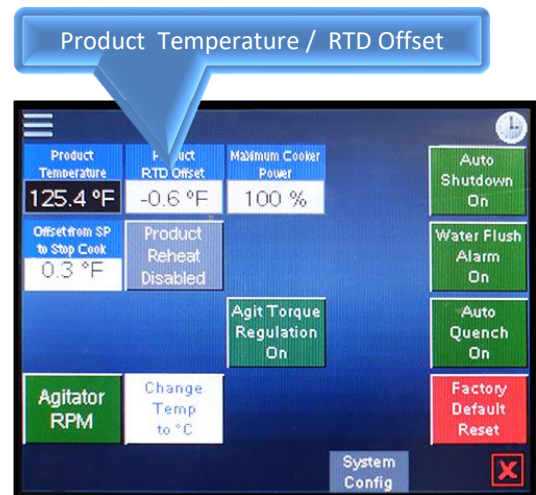

Figure 78
9. Press the **Product Temp / RTD Offset** button, Fig. 78, to open the numeric keypad.